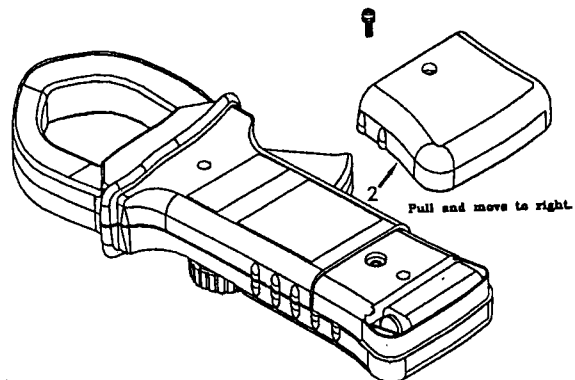

Figure 25. Step 2 of Battery Replacement.
3. Pull and Move the cover to right direction, see Figure 25.